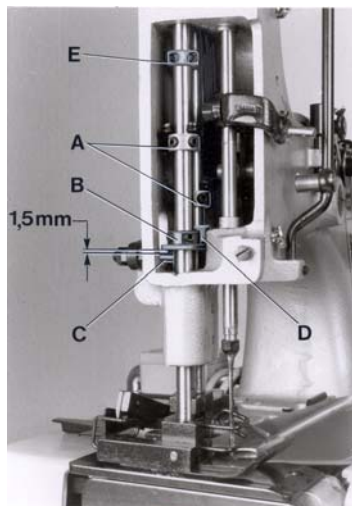
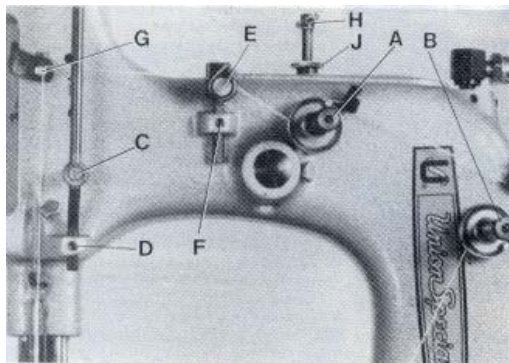

Fig. 11
Fig.12
Rotate the pulley until the feed dog is below the throat plate. Remove the face cover left on machine arm and turn out the T-screw (H, Fig. 12) on the top of the machine arm, until it does not exert any pressure on the leaf springs. In this position, the pressure exerted on the presser foot, should be just strong enough to keep it flat on the throat plate. By relocating the collars (A, Fig. 11), which serve as a leaf spring rest, on the left and right presser bar, the pressure can be changed. Raising the collars increases the pressure, lowering the collars decreases the pressure.
Set the presser bar lifter collar (B, Fig. 11) on the left presser bar so, that there is a distance of approx. 1.5 mm (1/16") between lifter lever stud (C) and lower surface of the lifter collar (B), when the presser foot rests on the throat plate (see Fig. 11). Set the collar (D) on the right presser bar close to the fork of the presser bar lifter collar (C) on the left presser bar.
Gire el volante hasta que los dientes del transportador se encuentren debajo de la placa de la aguja. Remueva la tapa frontal en el brazo y afloje el tornillo (H, Fig. 12) en la parte superior de la maquina hasta que no haya mas presión en las ballestas. En esta posición la presión al pie es solamente para mantenerlo plano en la placa de la aguja. Moviendo los anillos (A, Fig. 11), que sirven como soporte para las ballestas, en la barra de presión izquierda y derecha, se puede modificar la presión. Subiendo los anillos aumenta la presión, bajando los anillos disminuye la presión.
Coloque el anillo (B, Fig. 11) para levantar la barra de presión en la barra izquierda en tal manera para que haya una distancia de aprox. 1.5 mm (1/16") entre el perno levantador (C) y la superficie inferior del anillo (B), cuando el pie reposa en la placa de aguja (vea Fig. 11). Coloque el anillo (D) en la barra derecha cerca a la horquilla del anillo (C) para levantar la barra de presión de la barra izquierda.
On styles 80800TL and TAL set the collar (D, Fig. 11) on the right presser bar approx. 2.5 mm (7/64") above the fork of the presser bar lifter collar (B). This effects, when lifting the presser foot, that the left presser foot part is lifted first by approx. 2.5 mm (7/64"), before the right presser foot part will lift too.
The presser foot lift is limited with the upper stop collar (E, Fig. 11) on the left presser bar. When the needle is in its lowest position and the presser foot is lifted with presser foot bottom tilted up, the needle bar respectively needle clamp nut should not contact the presser foot bottom. Set collar (E) accordingly.
Now turn in T-screw (H, Fig. 12) until the necessary presser foot pressure for proper feeding is exerted (determine by sewing tests). Secure this setting with the knurled nut (J), which simultaneously fastens the upper arm cover. Remount the face cover.
The tension (A, Fig. 12) on the needle thread should be fairly strong to produce uniform stitches. On the two thread double locked stitch styles the tension (B) on the looper thread should be barely sufficient to steady it.
On the two thread double locked stitch styles 80800R, RL, TL, TAL, U, UA, UL and UAL, the height of the needle thread take-up roller (C, Fig. 12) is set so, that the needle thread on the downstroke of the needle just contacts the roll at the time the needle thread loop is released from the looper. Loosen screw (D) and set the needle thread take-up roller accordingly. Retighten screw (D).
En las maquinas 80800TL y TAL coloque el anillo (D, Fig. 11) en la barra de presión derecha aprox. 2,5 mm (7/64") encima de la horquilla del anillo(B) de la barra de presión izquierda. De esto resulta que, cuando se levante el pie, la parte izquierda del pie este levantado primero por 2,5 mm (7/64") antes de que la parte derecha del pie se levante también.
La altura del levantamiento del pie esta limitado por el anillo de parada (E, Fig. 11) en la barra de presión izquierda. Cuando la aguja este en su posición mas baja y el pie este levantado e inclinado hacia arriba, la barra de la aguja o la tuerca que fija la guía no deberían tocar la parte inferior del pie. Coloque el anillo (E) adecuadamente.
Ahora ajuste el tornillo con forma de „T“ (H, Fig. 12), para conseguir la presión necesaria para una alimentación optima (determine esto con pruebas de costura). Asegure este ajuste con la tuerca (J), que al mismo tiempo fija la tapa superior del brazo. Coloque otra vez la tapa frontal.
El tensor (A, Fig. 12) del hilo de la aguja debería ser ajustado de tal manera que la tensión del hilo de la aguja produzca unas puntadas uniformes. En los estilos con costura de doble cadeneta de dos hilos, el tensor (B) debe ser ajustado apenas lo suficiente para mantener la costura.
En las maquinas de costura de doble cadeneta 80800R, RL, TL, TAL, U, UA, UL y UAL, la altura del rodillo (C, Fig. 12) del alimentador del hilo de la aguja esta fijado de manera tal, que el hilo durante el movimiento de la aguja hacia abajo solamente toque el rodillo en el mismo momento cuando el looper suelte el lazo del hilo de la aguja. Suelte el tornillo (D) y ajuste el rodillo del alimentador del hilo de la aguja adecuadamente. Apriete el tornillo (D) otra vez.
On all styles the eyelet (E, Fig. 12) should be positioned so, that the needle thread runs nearly horizontal, parallel to cloth plate, between eyelet (G) on needle bar connection and eyelet (E) on machine arm, when the needle is in its upmost position. Eyelet (E) is secured by screw (F).
En todos los estilos el ojete (E, Fig. 12) debería ser puesto para que el hilo de la aguja se mueva casi en forma horizontal, paralelamente a la tapa principal de la maquina, entre el ojete (G) en la conexión de la barra de la aguja y el ojete (E) en el brazo de la maquina, cuando la aguja se encuentre en su posición mas alta. Asegure el ojete (E) con el tornillo (F).